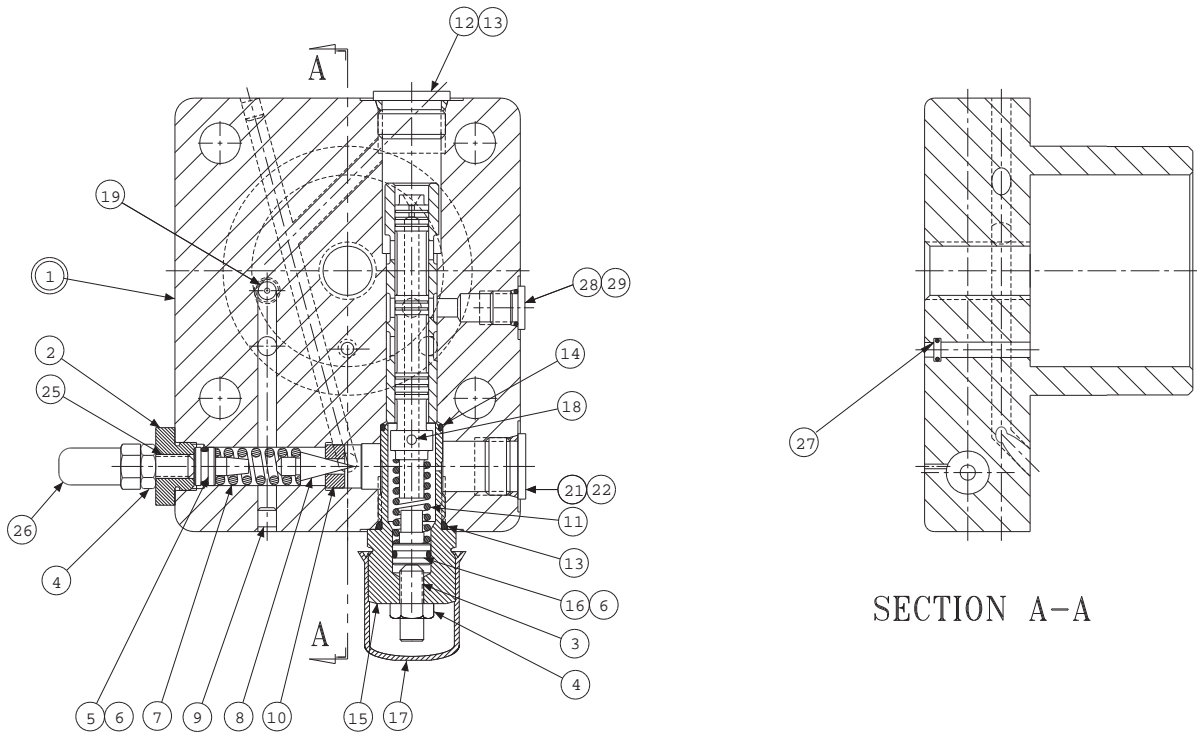
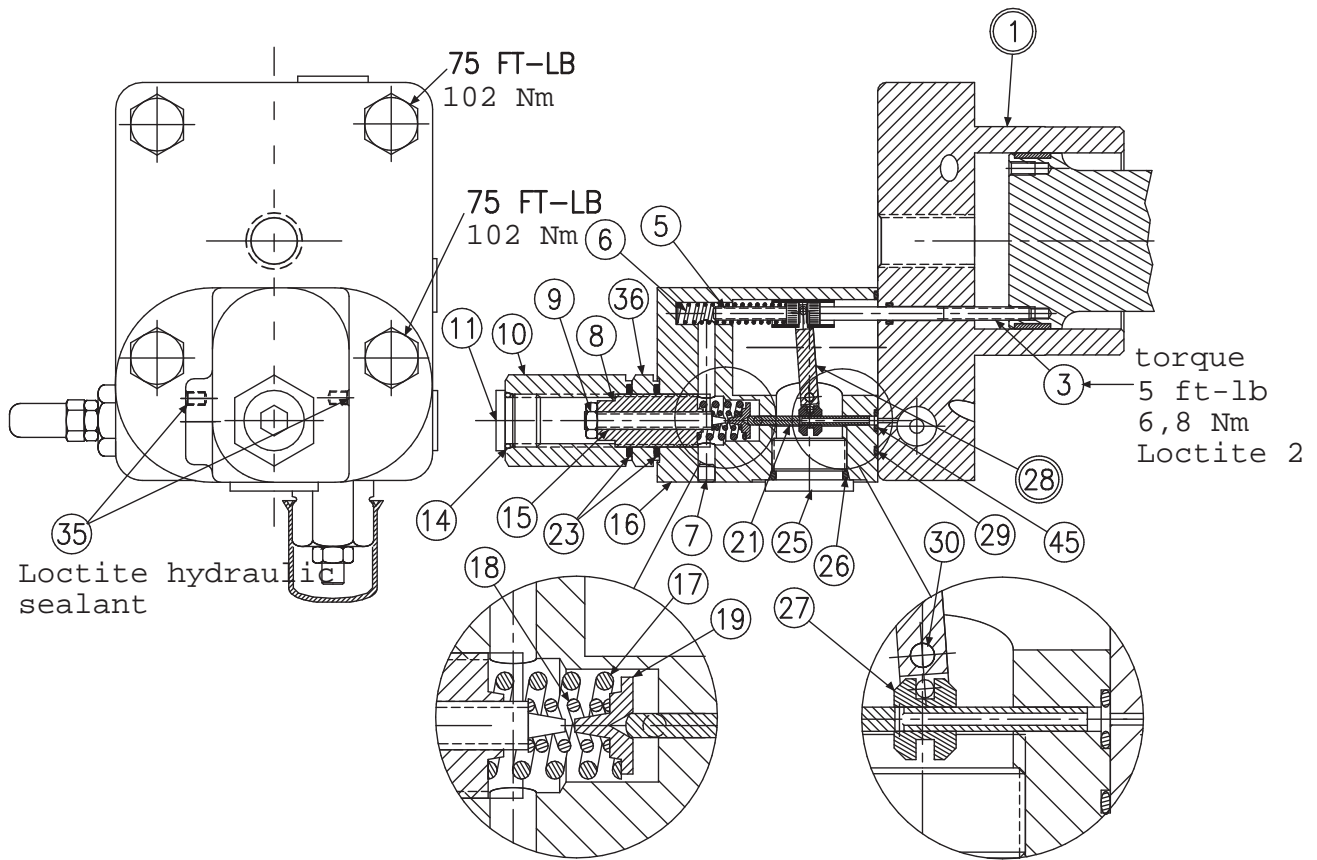

FIGURE 10
FIGURE 11
| 2 | ***Low Torque Limiter (Fig. 11) | S22-15313 | S22-15314 | 1 | — | - | — |
| | ***High Torque Limiter (Fig. 11) | S22-15315 | S22-15316 | — | 1 | — | - |
PARTS LIST FOR FIGURE 10
PARTS LIST FOR FIGURE 11
| 1 | Cap (Figure 10) | S22-12913 | S22-12923 | 1 | 1 |
1. See Figure 11. Remove 2 screws holding torque limiter body (16) to cap assembly (1).
2. Remove all parts from torque limiter body (16) except pin (30) and arm assembly (28). It is not necessary to remove these parts unless broken or worn. Examine parts for wear or damage.
3. Remove screw (3). Examine head for excessive wear, and body for smooth sealing surface with O-ring.
5. Remove cap assembly (1).
6. See Figure 10. Remove plug (15) and attached parts. Remove spring (11) and spool (18).
7. Remove adjusting plug (2) and attached parts. Remove spring (7) and cone (8).
8. Do not remove sleeve in body (1). Sleeve is pressed into cap and finished to size. If sleeve or cap is worn, replace the cap-sleeve assembly (1).
9. Examine seat (10) for wear. Do not remove unless damaged.
1. See Figure 10. Install Avseal plugs (9) and orifice (19) in body.
2. Press seat (10) into bore squarely against shoulder in bore.
3. Install spool (18) into bore as shown. Install spring (11) over end of spool. Install O-ring (6) on seal piston (16). Lubricate and install into plug (15). Install plug (15) into cap. Install screw (3), nut (4) and acorn nut (17). Install plug (12). Torque plugs to 75 lb.*ft., 102 Nm. Install plug (21). Torque to 46 lb.*ft., 62 Nm. Install plug (28). Torque to 11 lb.*ft., 15 Nm.
4. Install O-ring (6) on seal piston (5). Lubricate O-ring and install cone (8), spring (7) and seal piston (5) into bore in cap (1), being careful that cone enters seat (10). Install adj. plug (2), screw (25), nut (4) and acorn nut (26).
5. Carefully install O-ring (27) in the cap.
8. See Figure 11. Apply Loctite 242 on threads of screw (3), lubricate the shank, thread through the cap into the control piston, and torque to 5 lb.*ft., 6,8 Nm
10. Press dowel (30) into body (16), through the link assembly (28), to 1/4", 6,35 mm below surface. Apply Loctite hydraulic sealant to threads of screws (35) and install over dowel (30).
11. While sleeve (27) is engaged into dowel on link (28), slide spool (21) into bore of body (16), and through sleeve (27). Spool (21) must move freely and easily at all positions of the link (28).
12. Assemble remaining parts per drawing. While spring retainer is engaging clevis pin (5) under dowel of link (28), slide the other opening of spring retainer over the top of the screw (3). Attach body assembly (16) to cap (1) and torque screws to 75 lb.*ft., 102 Nm.
Ref. Figure 10